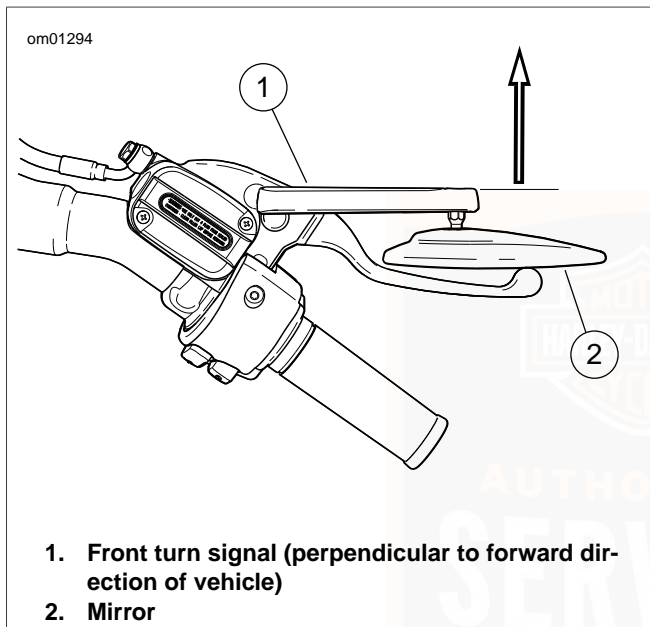
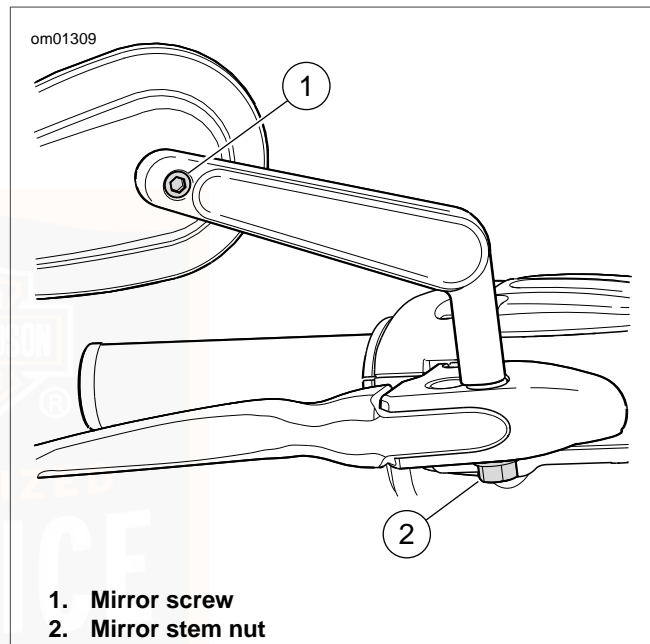

Figure 15. Mirror/Turn Signal Alignment: VRSCF Model
Figure 16. Mirror/Turn Signal Fasteners: VRSCF Model
See Figure 15. On the VRSCF model, the mirror stems operate as front turn signals. Use the following procedure to properly align the front turn signals and position the rear view mirrors.
See Figure 16. Always loosen fasteners before changing the position of the turn signals or mirrors. Simply pushing the mirror face or stem may cause damage to the assembly.
1. See Figure 16. Loosen the nut on the mirror stem. Adjust the front turn signal so it is directed straight ahead, with the lighted surface facing the forward direction of the vehicle as shown in Figure 15.